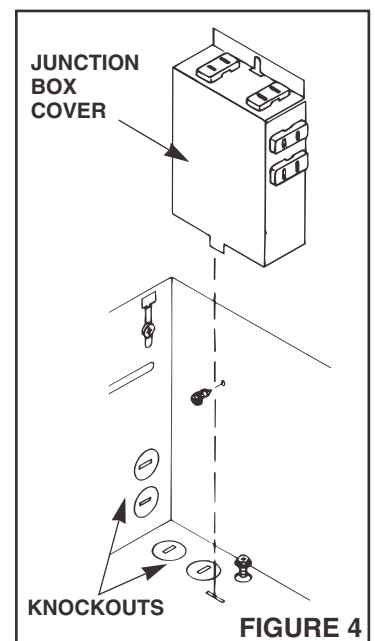

FIGURE 4
4. Refer to Figure 4. Remove junction box cover by removing one screw.
5. Refer to Figure 4. Remove appropriate wiring knockout(s) and install approved box connector(s).